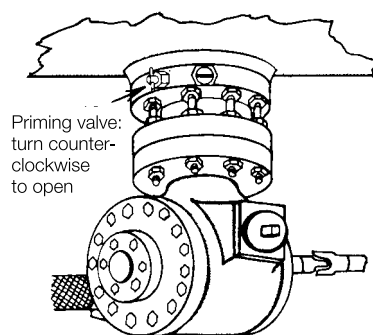

Figure 6. Priming Procedures
5. Make certain the priming valve on the side of the Flomatic® valve is open (Figure 6).